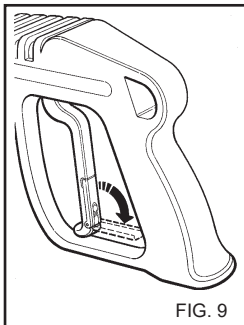

FIG. 9
**To eliminate any impurities or air bubbles from the water circuit we advise starting the cleaner for the first time without the lance and letting the water run out for a few seconds. Impurities could block the nozzle and cause malfunction (fig. 9).**
- When the water cleaner is not used, close the safety device on the handle. (fig. 9)